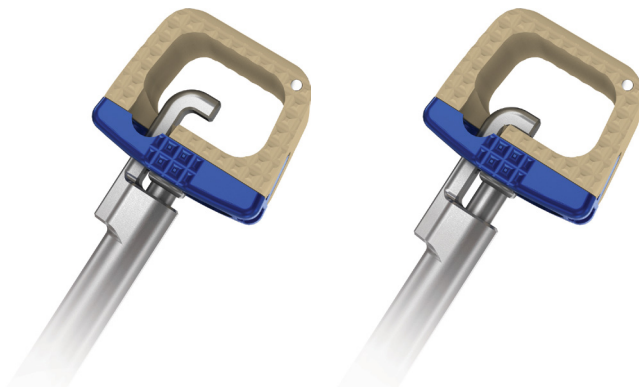

Figure 15
b. After the Screw removal (Figure 15) insert the Implant Extraction Hook (37-IN-0080) and tighten to retain the implant.